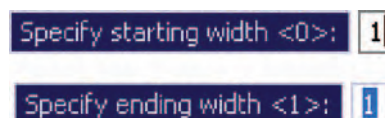

Fig. 3.28 Dynamic Input – first example – Polyline – entering widths
4. Another prompt field appears. At the keyboard *enter* the required width and *right-click*. Then *left-click* and *enter* **ending width** or *right-click* if the **ending width** is the same as the **starting width** (Fig. 3.28).